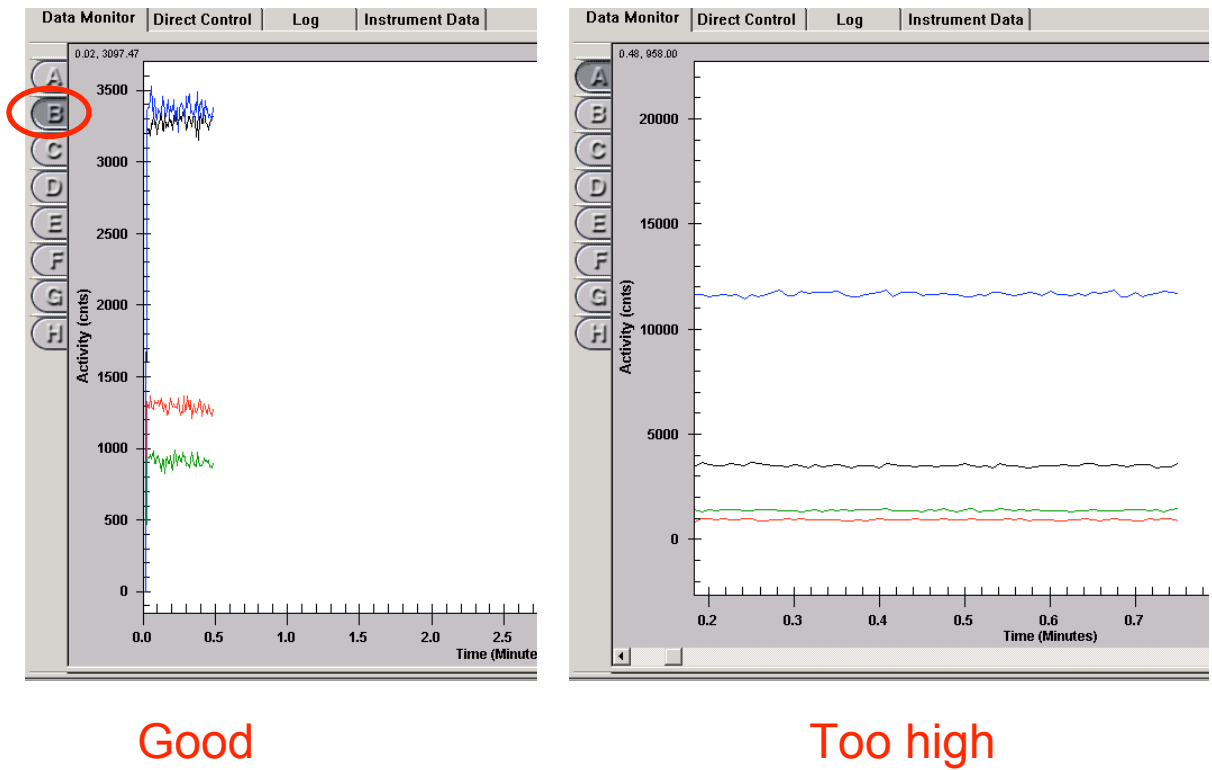

Figure 11
14. To view the baseline, click on the side tabs, A-H (Figure 11) one at a time. This will show you the baseline fluorescence readings. Wait around 30 seconds to let the readings even out.